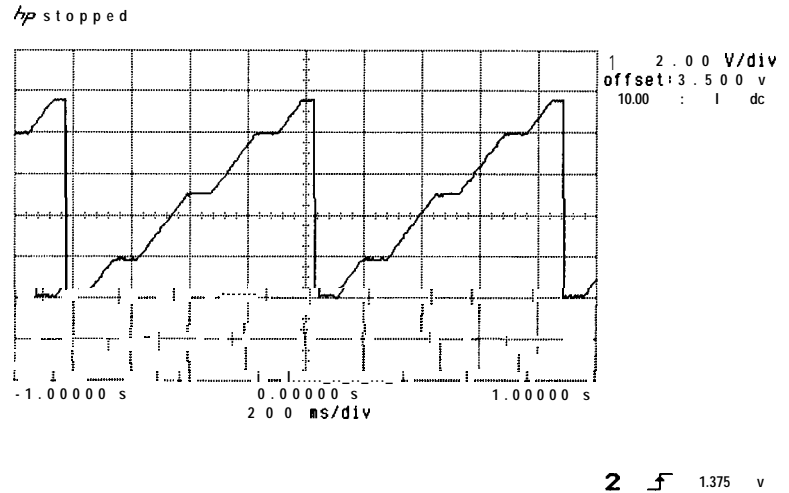
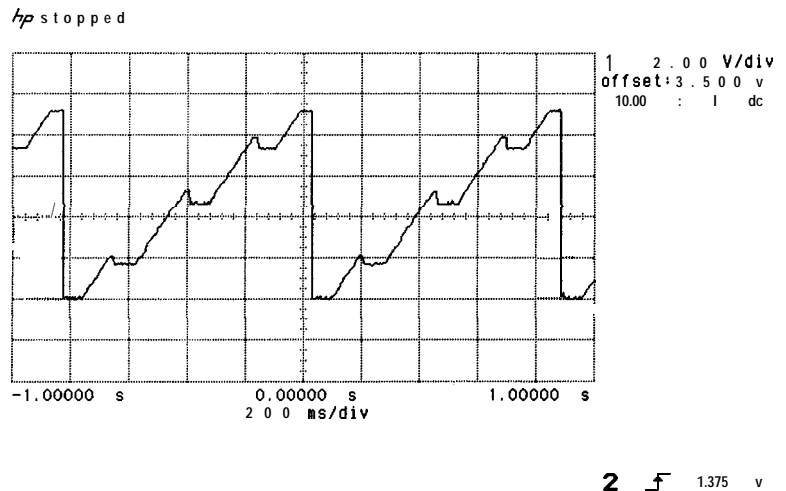

Figure 3-59. Properly Adjusted DC Levels Between Sweep Ramps
Figure 3-60. Improperly Adjusted DC Levels Between Sweep Ramps
12. Connect the oscilloscope channel 1 to A16TP4 (AUX OUT). Display should be a stepped series of 4 sweep ramps similar to that shown in Figure 3-59.
13. Adjust A16R68 AUX adjustment to align dc level of 3 dead time steps with upper dc level of each preceding sweep ramp. Refer to Figure 3-59 and Figure 3-60 for typical display of proper and improper adjustment.